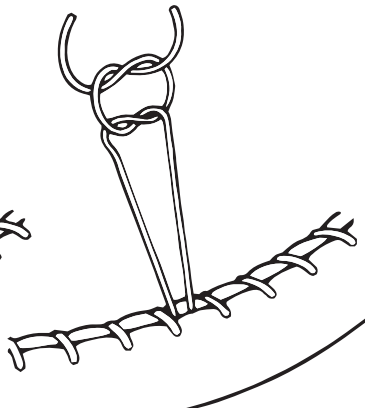

Figure 8
6. When you have completely laced around the steering wheel, insert the needle through the last rear hole and up between the edges of cover. The two ends of the lacing cord will now be protruding out between the edges of the cover. Tie a tight double knot and cut off the excess lacing at knot. Then tuck the knot end between and under the edges of cover. Refer to figure 8.